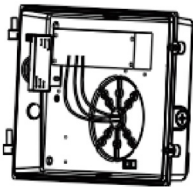

Fig. 5
7. Thread the wire through the bottom mounting hole. (Fig. 5)